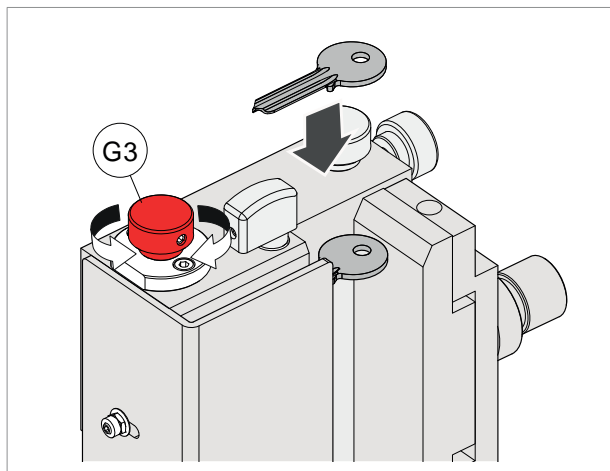

Fig. 112
- 1) Insert the key from the top, as shown in Fig. 112.
- 11) Use knob (G3) to set maximum key stem width (Fig. 112).